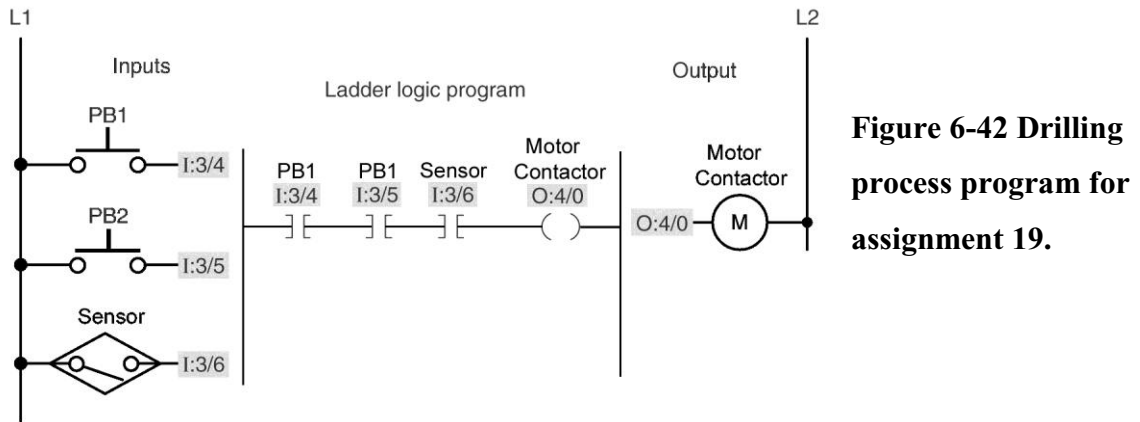

Figure 6-42 Drilling process program for assignment 19.
19) The drilling process program of Figure 6-42 is described in the text. Prepare an I/O connection diagram and ladder logic program for the process. Use addresses that apply to your PLC. Enter the program into the PLC, and prove its operation.